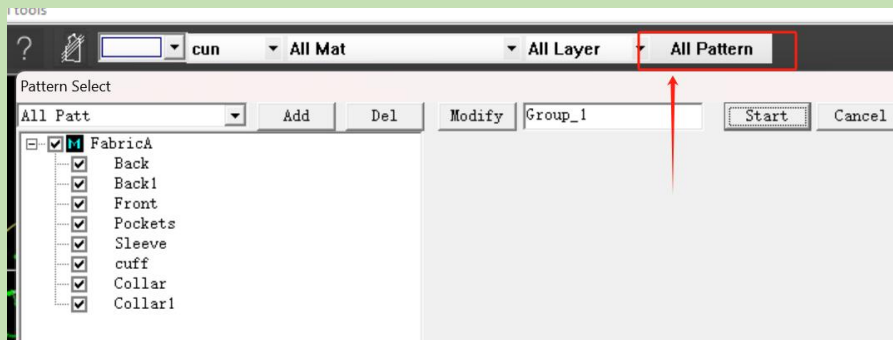

Figure 2-21
21.All pattern pieces: Select patterns (as shown in Figure 2-21).